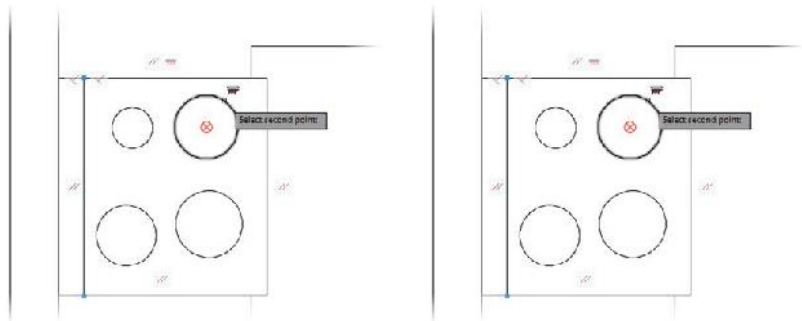

FIGURE 5.50: Using the Horizontal constraint to select the center point of the circle
5. Hover over the top-left burner, and select it when a small red circle with an X appears in the center, as shown on the left in Figure 5.50.
6. From the **Select second point:** prompt, use the same method to select the center point of the top-right burner, as shown on the right in Figure 5.50.